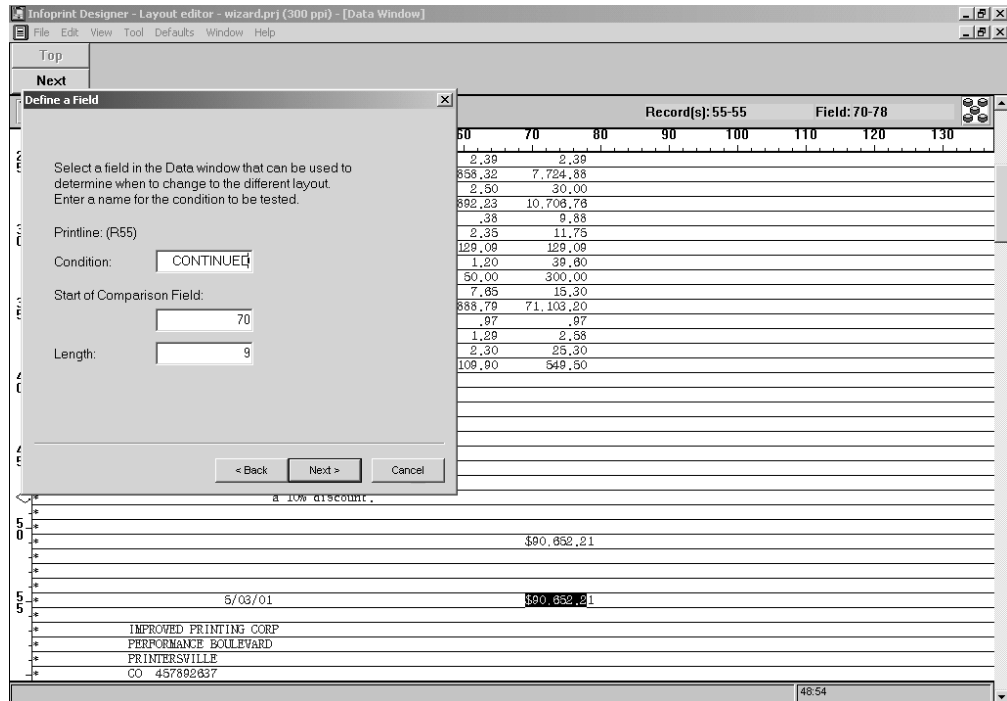

Figure 23. Completed Define a Field page
- a. Select columns 70 - 78 of record 51. This is from the \$ to the 2, do not include anything else. The completed **Define a Field** page is shown in Figure 23. If you accidentally selected the whole total amount, the **Length** field shows 10 and you can type over that with a 9.